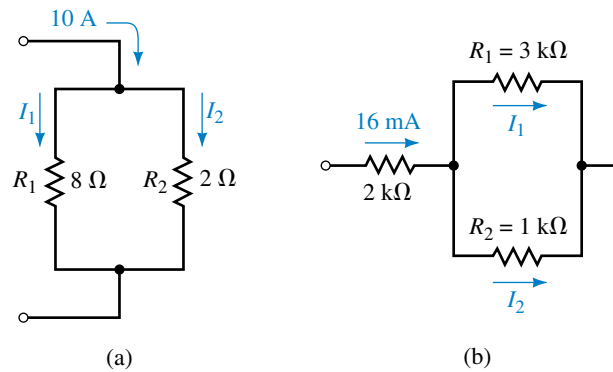

FIGURE 6-74
29. Use the current divider rule to find the currents I_1 and I_2 in the networks of Figure 6-74.